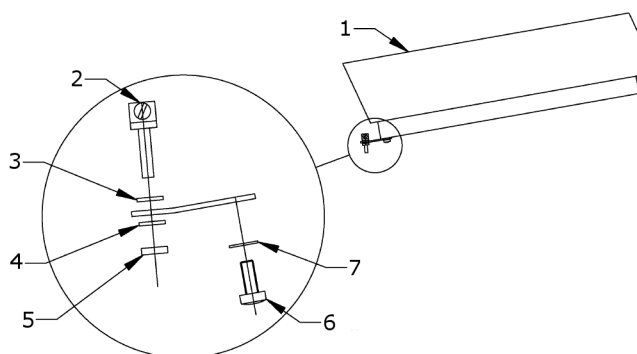

Fig. 3 Installation
13. Mount the washer nozzle bracket assembly onto the camera housing using the two M4 x 10 mm screws and fibre washers supplied, as shown in Fig. 3. Ensure that the screw penetration is not too great before inserting. Fit the 3 mm bore tube to the nozzle inlet taking care not to distort the bracket.